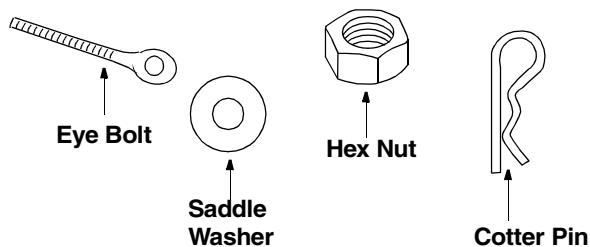
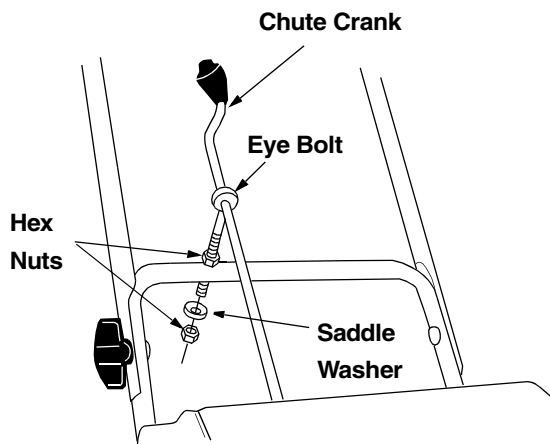

Figure 2
Figure 5
Models with optional extended chute crank (Figure 2)
- Thread one 5/16" hex nut all the way onto the eyebolt. See Figure 5. All necessary hardware is included in the hardware pack shipped with your unit. See Figure 2 for more details.